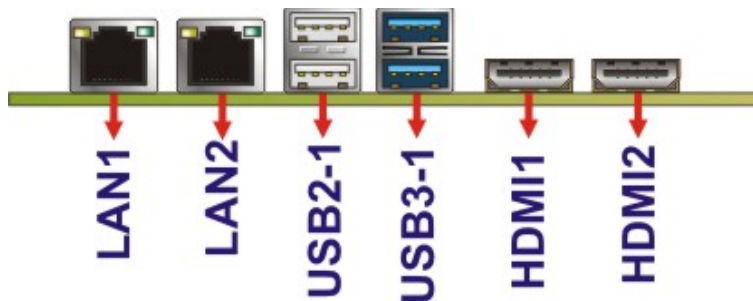

Figure 3-34: External Interface Connectors
- CN Location:** See **Figure 3-34**